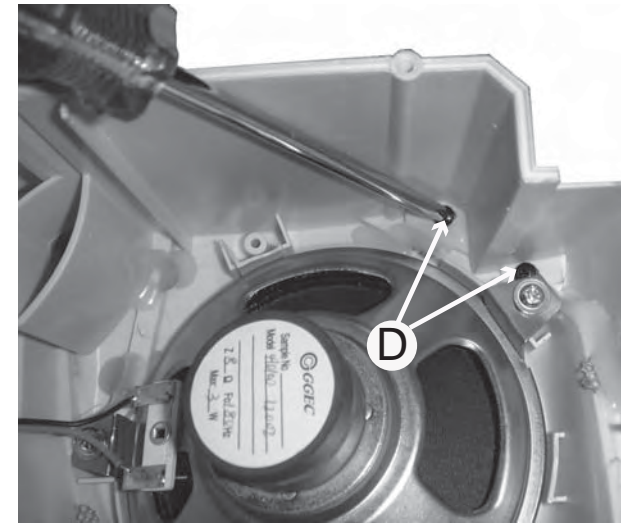
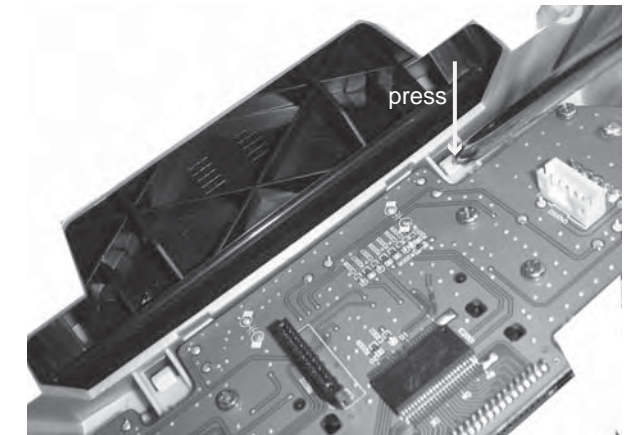

Figure 6
Figure 7
- 4) Loosen 4 screws "D" in figure 6 and press the bracket support in figure 7 to remove the control board assembly.